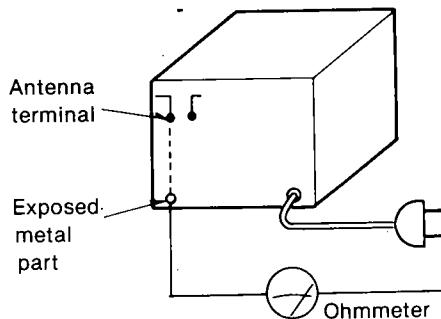
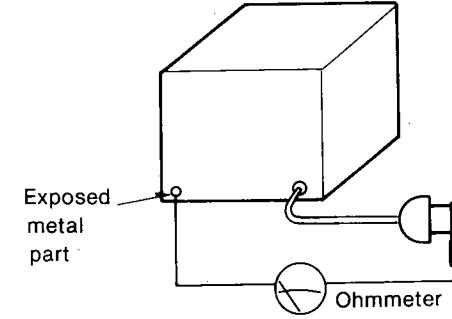

Fig. 1
Fig. 2
3. Measure the resistance value with ohmmeter between the jumpered AC plug and each exposed metal cabinet part, such as screwheads, antenna, control shafts, handle brackets, etc. Equipment with antenna terminals should read between $3M\Omega$ and $5.2M\Omega$ to all exposed parts. (Fig. 1) Equipment without antenna terminals should read approximately infinity to all exposed parts. (Fig. 2)
1. Make connections as shown in fig. 2.